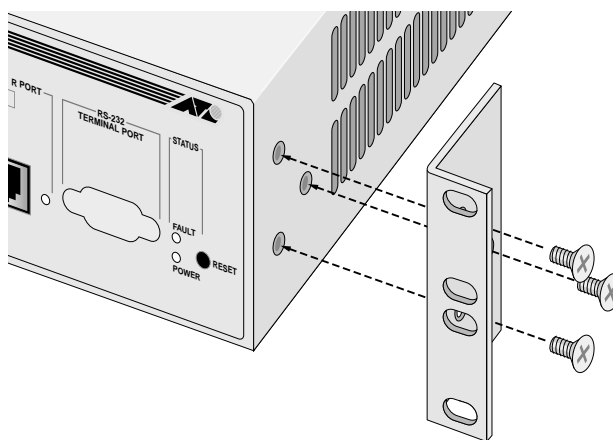

Figure 7 Attaching Rackmounting Brackets
5. Attach the rackmounting brackets to each side of the switch, using the six flathead screws that came in the switch package, as shown in Figure 7.